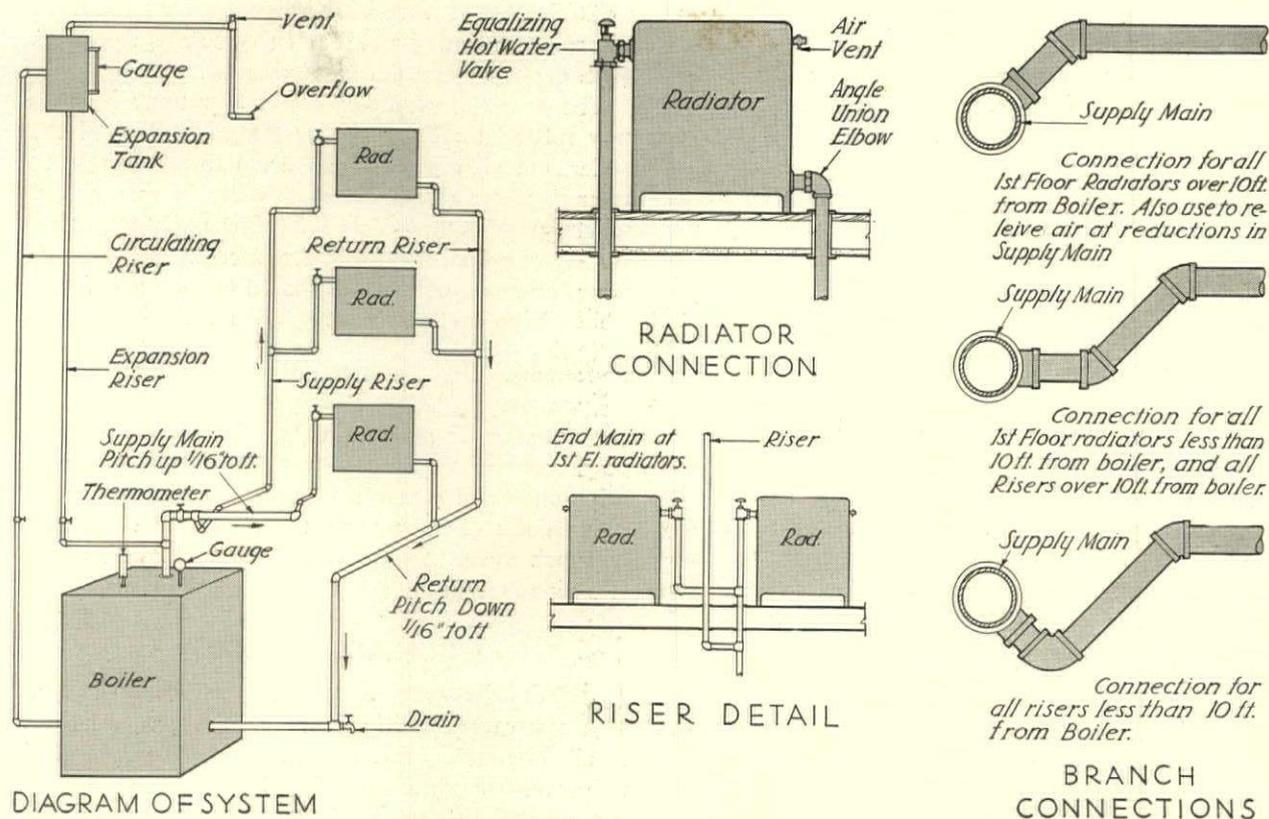

FIG. 4. DETAILS OF TWO-PIPE GRAVITY HOT WATER HEATING SYSTEMS
**Elements** include a hot water boiler or a steam water heater; hot water type radiation; a system of supply mains and risers with branches to individual radiators; a system of return mains with risers and branches from each radiator; a supply valve on each radiator to control the flow of water; a key type air vent valve on each radiator to permit manual release of entrapped air when system is filled; and a means of keeping the system full of water while allowing for its expansion and contraction with variations in water temperature. See Fig. 4.